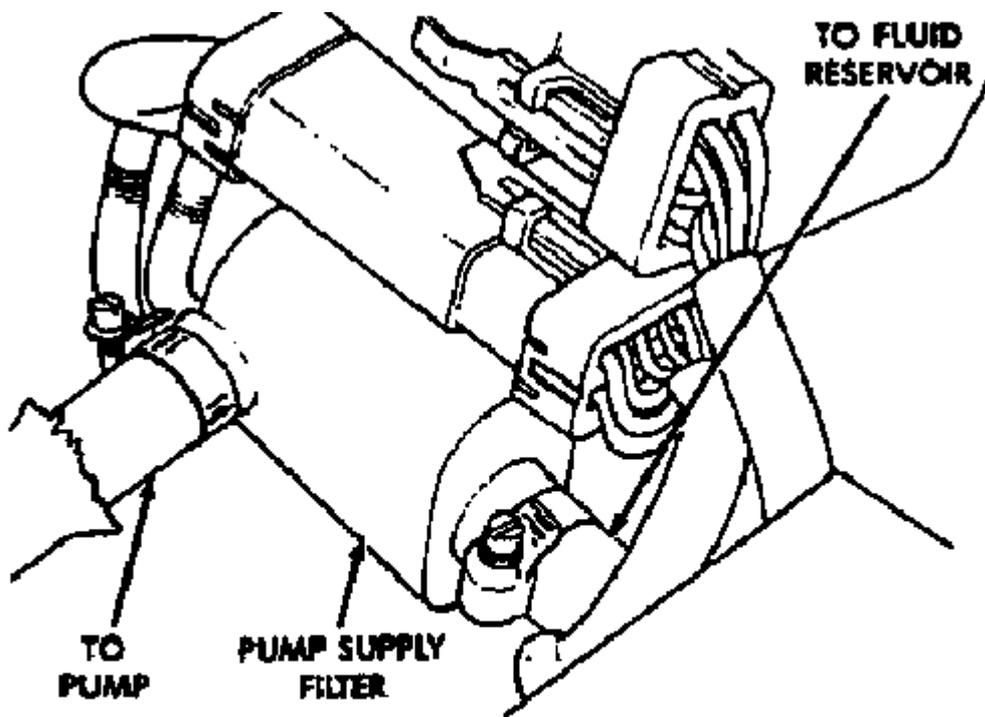

Figure 5
5. Remove and install the new pump supply filter from the Clip on the front of the actuator assembly (Figure 5).